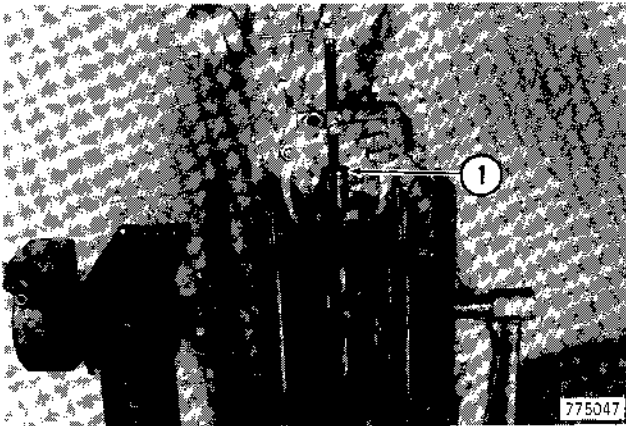

Figure 6
7. Remove selectamatic oil filter restriction indicator sending unit, Figure 6.